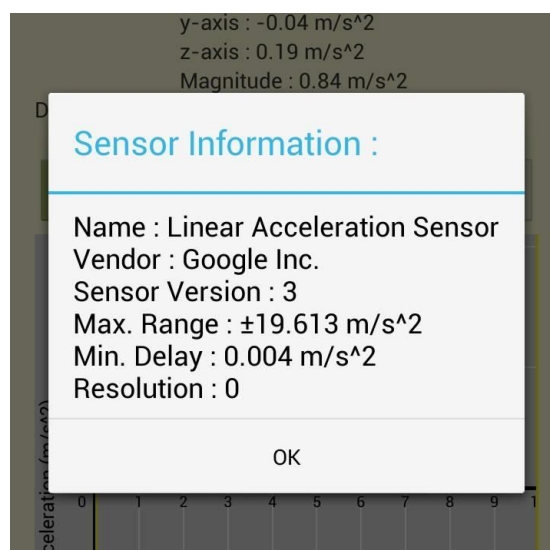

Fig 4.5
1. Info → Sensor Info (Fig 4.5): The name, vendor, version, range, delay and resolution of the sensor are displayed.